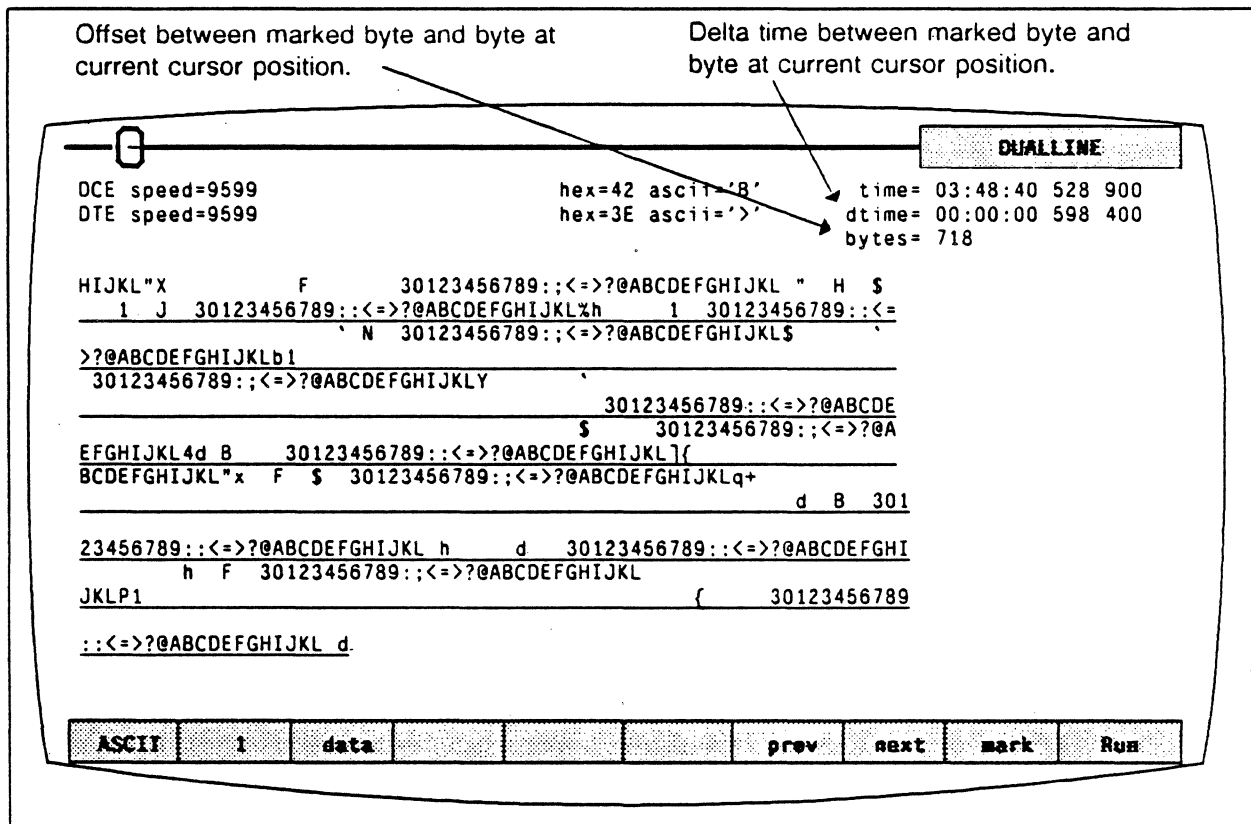

Figure 5.8: Dual Line Display (Marked Byte)
**F9** marks the byte at the cursor as the base line byte. When a byte is marked, the following changes occur to the Dual Line page (Figure 5.8):